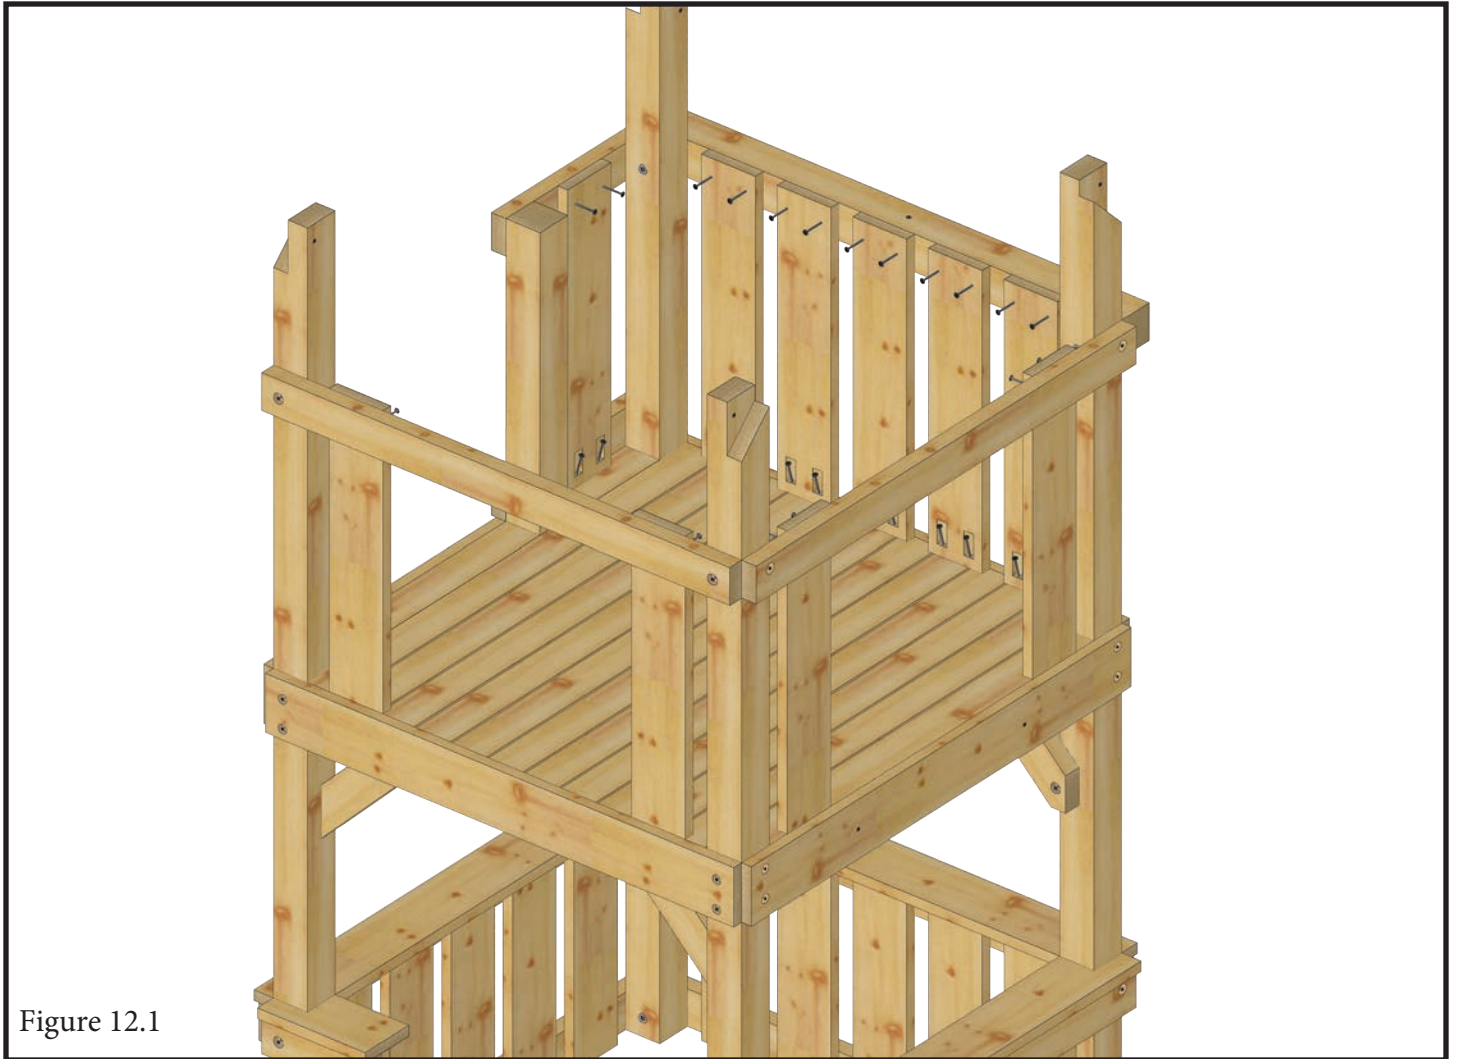

Figure 12.2 Shows how the large pockets allow for angling the screws to ensure alignment into the deck boards.
12.2 With roughly 2-1/4” spacing between slats, fasten the Pocket Slat 28” Boards down to the decks with 2” Screws as shown in Figure 12.2.